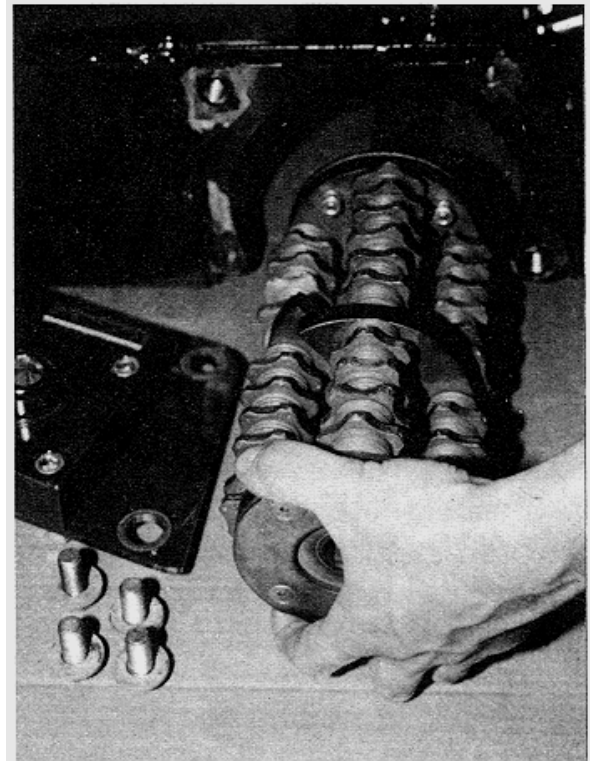

FIGURE 22
3) Using the wrench, remove the four (4) 1/2-inch diameter x 1 inch long capscrews and flat washers securing the drum access plate to the main frame.
6) Install the loaded flail drum on the driveshaft. If utilizing the milling flails or other flail configurations that are unidirectional, determine that the flails are facing the direction of rotation. FIGURE 22.